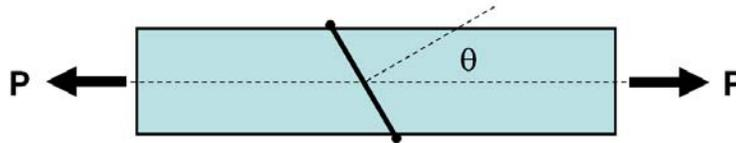

Figure 3: Wood pieces connected by glued joint.
3. A beam of 2000 mm^2 cross-sectional area is composed of two pieces of wood glued together along a plane at an angle θ with the beam axis (Figure 3). It has been found from previous experiments that the joint will fail at 20 MPa and 10 MPa normal and shear stresses, respectively, and the wood at 56 MPa and 28 MPa normal and shear stresses, respectively. Determine the maximum allowable axial load that the bar can carry with a safety factor of two and the corresponding value of the angle θ .